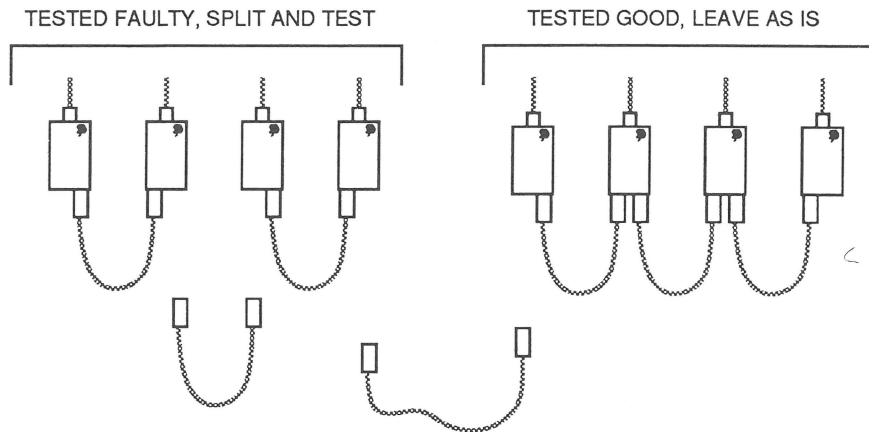

FIGURE 4
3. Remove the cable in the center of the faulty portion of the network (see Figure 4).